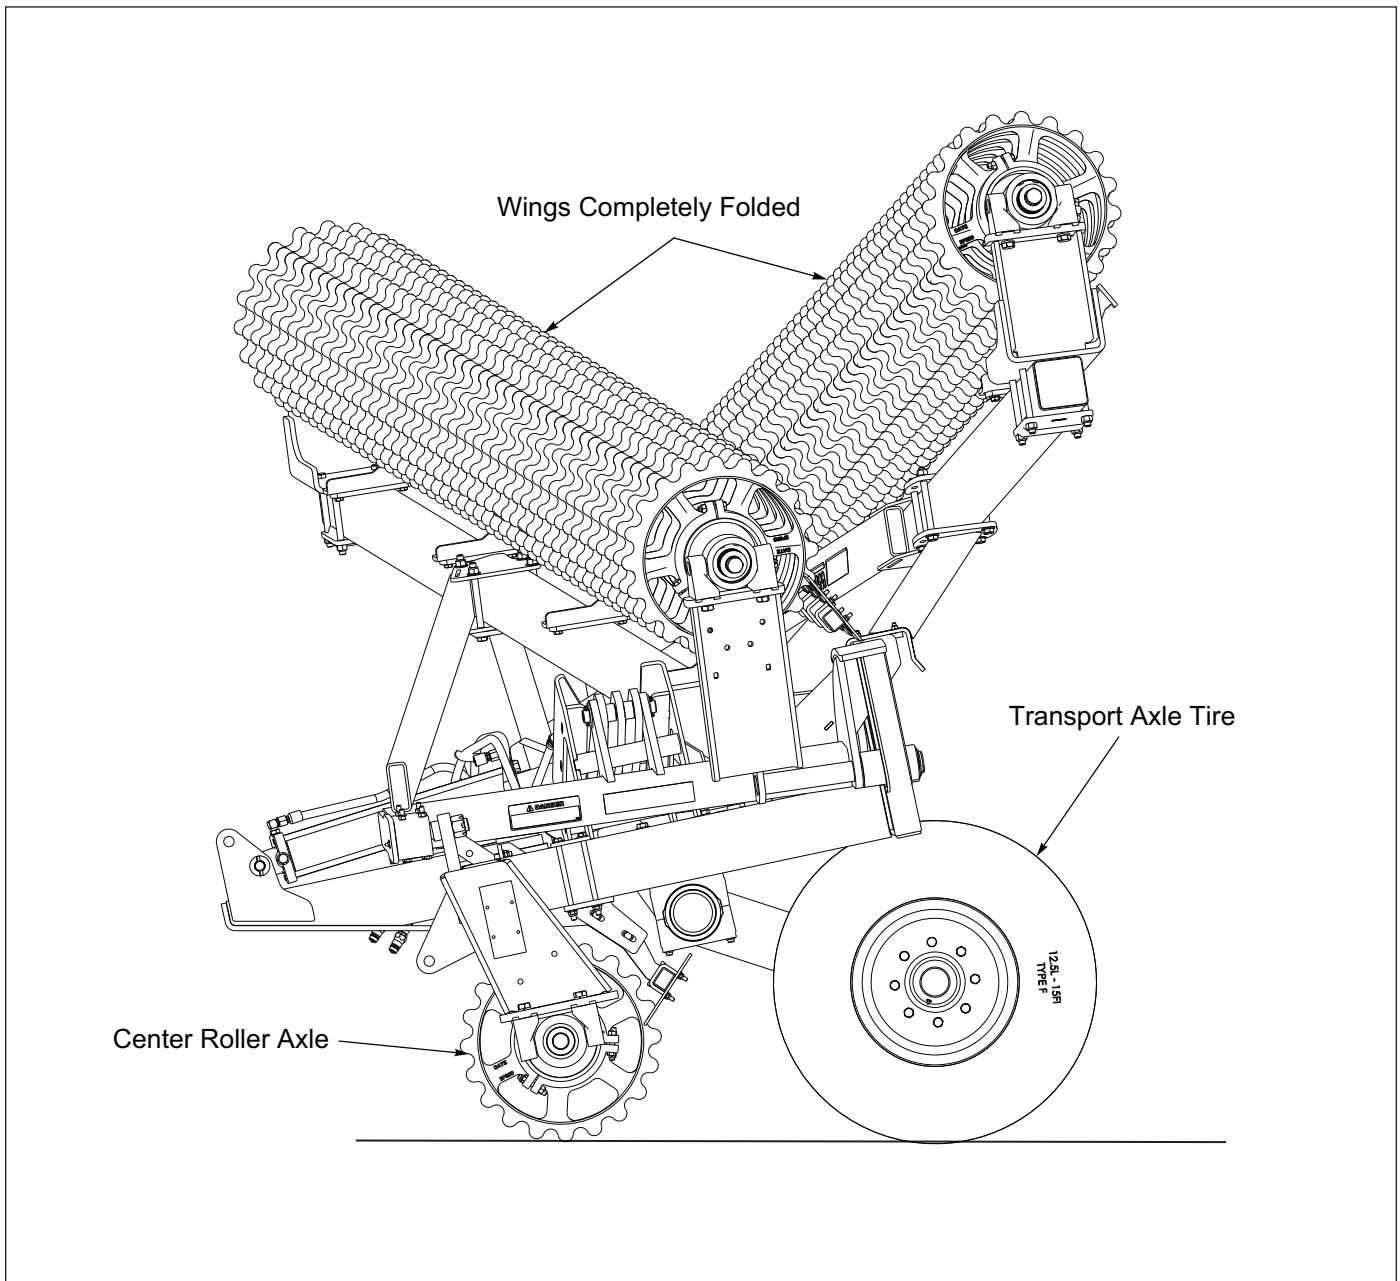

**Figure 3-10: Trailer Transport Lock - Engaged**
2. Place the short Transport Lock over the exposed Lift Cylinder Rod. **See Figure 3-10.**